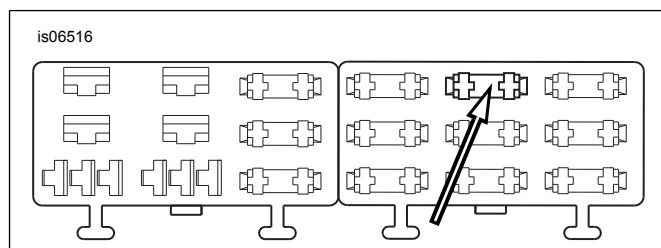

Figure 10. "P&A IGN" Fuse Block Cavity (2004-2010 Softail)
- See Figure 10. Locate the fuse cavity (1) indicated as "P&A IGN" on the fuse block cover in the right fuse block. Insert the terminal on the orange/white adapter wire until it stops. Refer to a nearby factory installed terminal for comparison to verify proper orientation and depth.